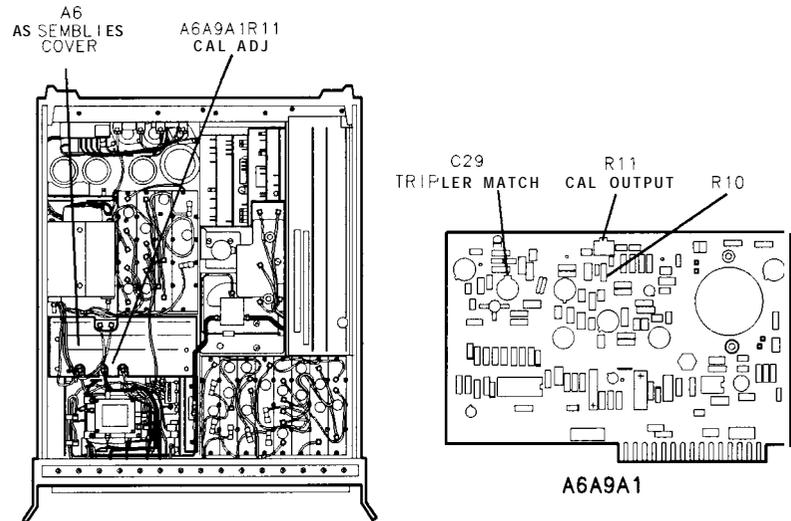

Figure 3-88. Location of Track and Hold Adjustments
9. Adjust A3A9R59 (T/H) OFS until MARKER Δ level indication as indicated by CRT annotation flickers back and forth between .00 and .10 dB. See Figure 3-88 for location of adjustment.